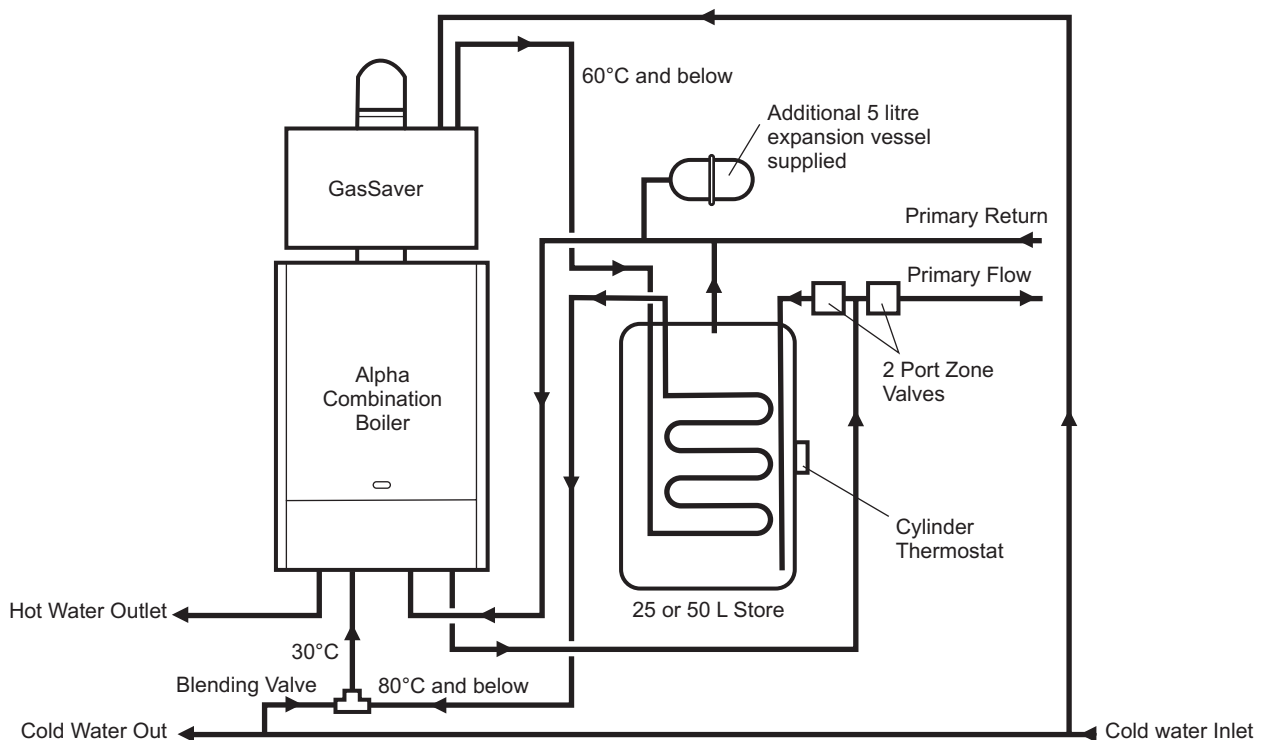

Fig. 4
Refer to the instructions supplied with the boiler for full information. However the FlowSmart has been supplied with a 5 litre expansion vessel for fitting to the primary return pipework between the FlowSmart primary store and the boiler (See Figs. 4 and 5). This is to allow for the additional expansion required when fitting the FlowSmart primary store. The pre-charge of the expansion vessel should be 1 bar.
- c. Connect all primary system pipework referring to Fig. 4 or 5. Ensure that the following are connected:-
Connect the 'S' or 'Y' plan valves as shown in Fig. 4 or 5.
- d. Connect all cold mains and hot water pipework as shown in Fig. 4 or 5. Ensure that the blending valve is connected to the hot water outlet pipework from the store also shown in Fig. 4 or 5.